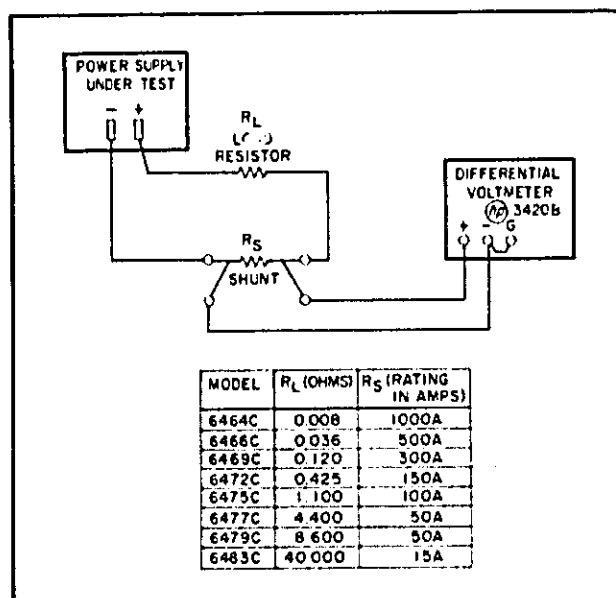

Figure 5-7. Constant Current Test Setup
- a. Connect test setup shown in Figure 5-7.
- a. Utilize test setup shown in Figure 5-7.